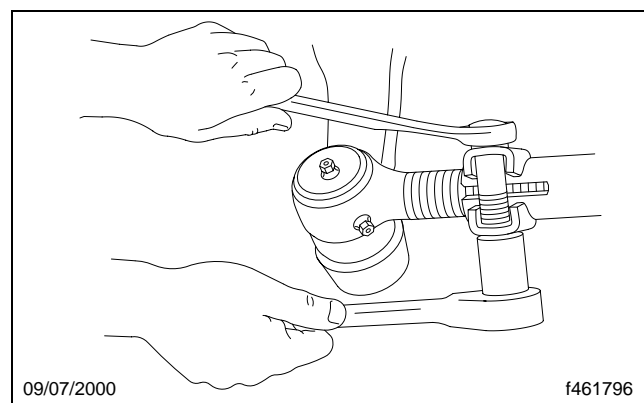

Fig. 2, Loosen the Bolts and Nuts on the Cross-Tube Clamp
1. Loosen the bolts and the nuts on the cross-tube clamps. See **Fig. 2**.